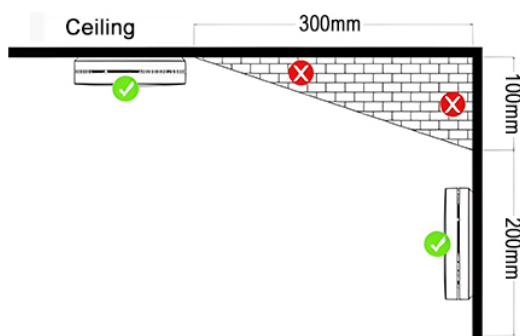

Figure 1
5. If the alarm cannot be installed in the middle of the ceiling, install it 300mm away from the corners. (See figure 1).